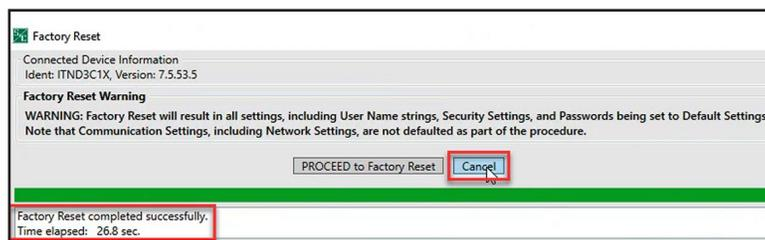

Figure 62. The Factory Reset completed successfully message.
STEP 6. When the **Factory Reset** procedure is completed, click on the **Cancel** button to complete the procedure. See Figure 62.